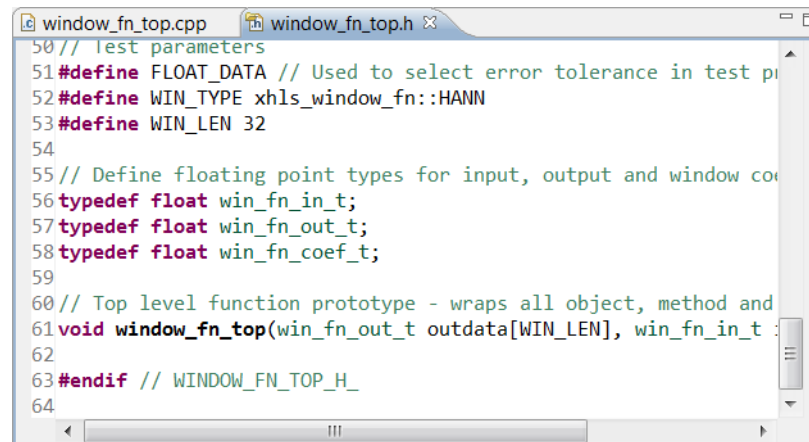

Figure 5-5: Type Definitions for C Validation Lab 3
3. Scroll down to view the type definitions (Figure 5-5).